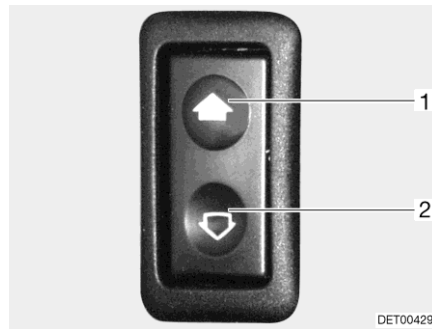

Fig. 36 Switch for electrical window winder
- Opening:* ■ Press the lower part (Fig. 36,2) of the switch.
- Closing:* ■ Press the upper part (Fig. 36,1) of the switch.